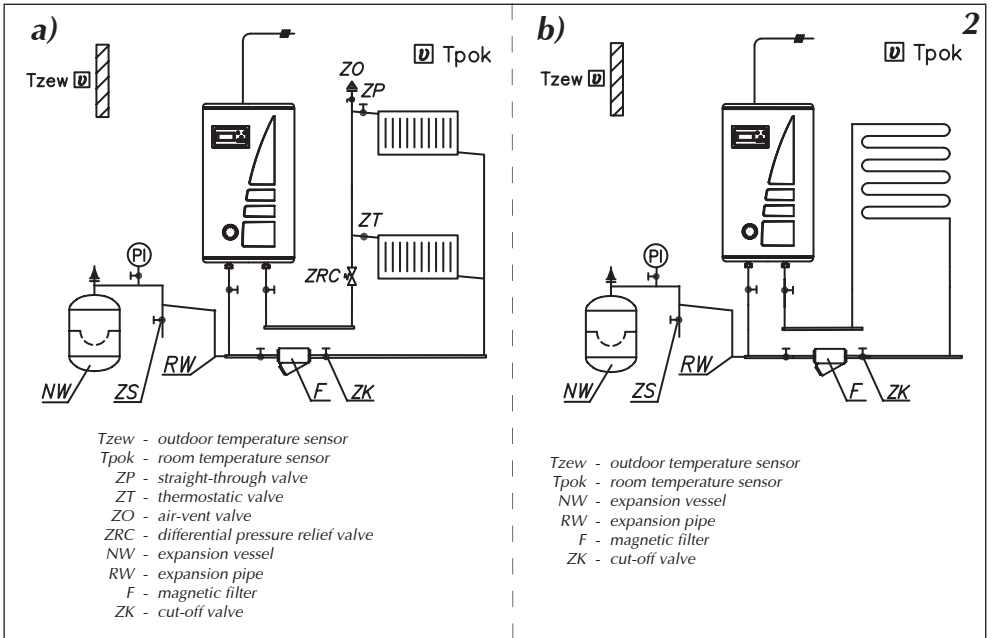
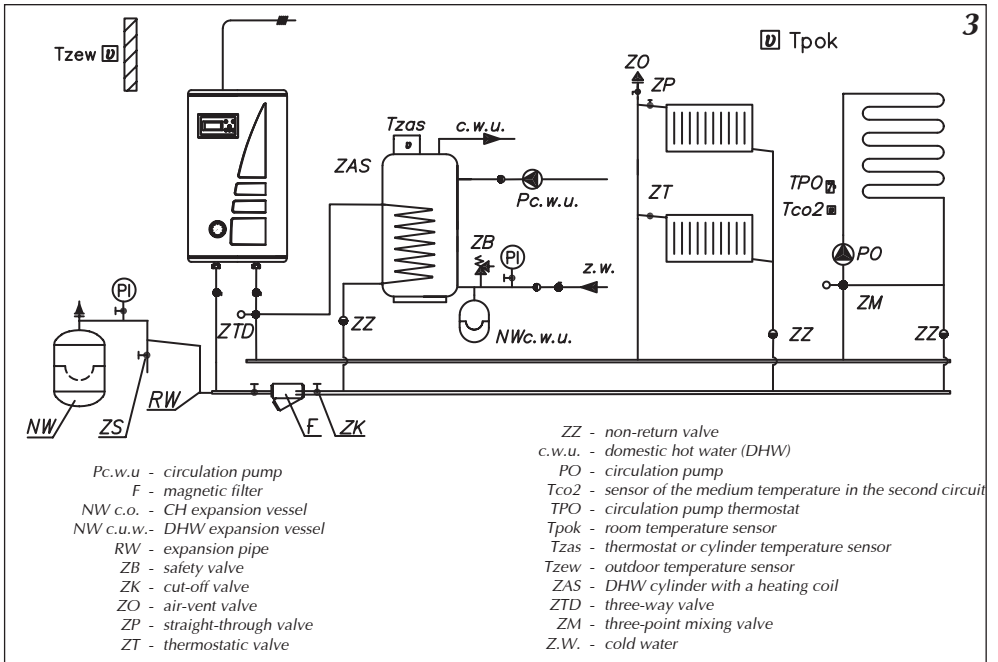

Fig.2 Exemplary scheme of central heating system
Fig.3 Exemplary scheme of central heating system– radiators, under-floor heating, DHW cylinder, DHW circuit
2. Connect the boiler to a central heating system equipped with cut-off valves (see fig.2 & fig.3).
The ZTM contacts of ZIO22 board enables to connect the mixing valve with 3 point drive to supply the second heating circuit (fig.3 ZM valve). This circuit must be adjusted to the lower parameters than the circuit of the boiler e.g. when the circuit of the boiler is set for the maximum temperature of 85°C (see the „Extended Menu” for WChG, WChG2, Tcomax and Tc2max parameters), the second circuit can supply the underfloor heating system with the maximum temperature of 60°C. In this case it is necessary to remember that the extra safety devices has to be installed to prevent the overheating of the second circuit. The WE-008 sensor measures temperature of the second heating circuit.